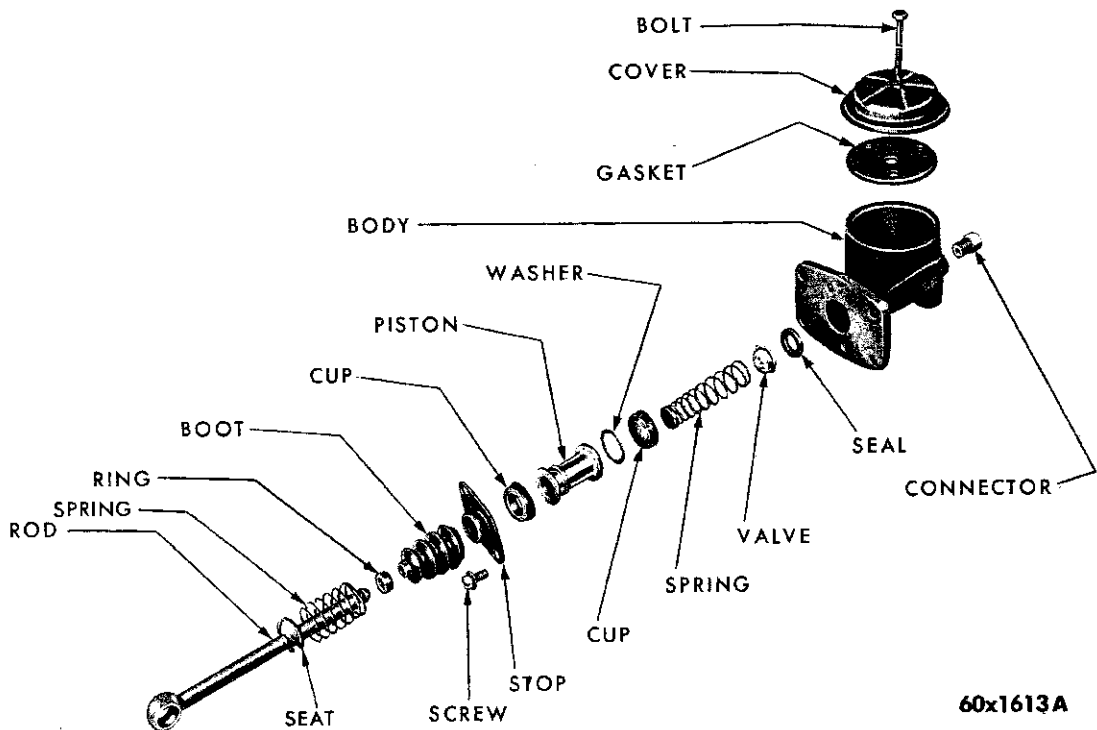

Fig. 7—Master Cylinder Assembly
Disassembly (Fig. 7)
- (1) Remove the pedal return spring.
- (2) Disconnect the push rod.
- (3) Disconnect the brake tube at the master cylinder.
- (4) Remove the nuts and bolts that attach the master cylinder to the dash panel. Slide the master cylinder straight out and away from the dash panel.
- Clean the outside of the master cylinder thoroughly, then remove the cover and drain all the brake fluid. Refer to Figure 7 and disassemble the master cylinder for inspection as follows:
- (5) Remove the piston stop flange attaching screws and remove the dust boot, push rod and piston assembly. (Do not remove the push rod from the piston.)
- (6) Remove the brass washer between the piston and the cup. Remove the master cylinder cup, spring and valve from the master cylinder.
- (7) Wash the master cylinder in a suitable solvent and inspect for a scored or pitted cylinder.
- (1) Install the check valve and spring in the cylinder with the valve toward the outlet of the cylinder (Fig. 7).
- (2) Install the master cylinder cup in the cylinder with the open end of the cup over the closed end of the return spring.
- (3) Install the secondary cup on the master cylinder piston and install the piston and push rod assembly in the cylinder with the flat brass washer between the piston and the cup.
- (4) Install the dust boot on the push rod and install the stop flange screws.
- (5) Reinstall the master cylinder on the firewall and fill with MoPar brake fluid.
- (6) Attach the brake line.
- (7) Bleed the brake system.